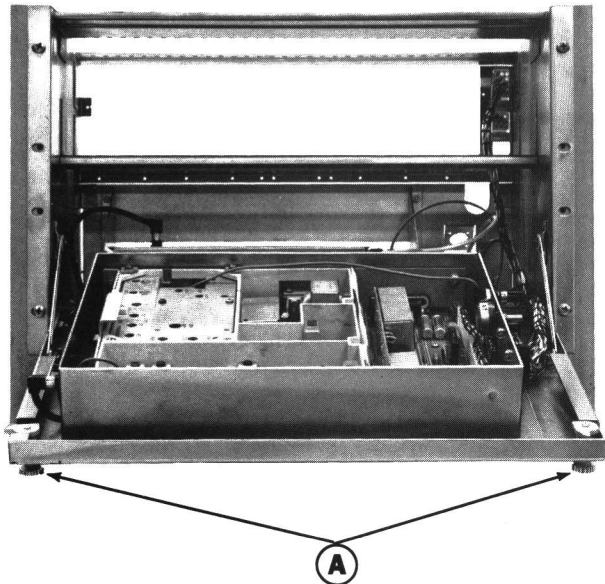

Figure 3 - Access to Exciter Front View
1. Turn the two latching knobs (A) counterclockwise to unlatch the Radio Panel Front Door. Refer to Figure 3.